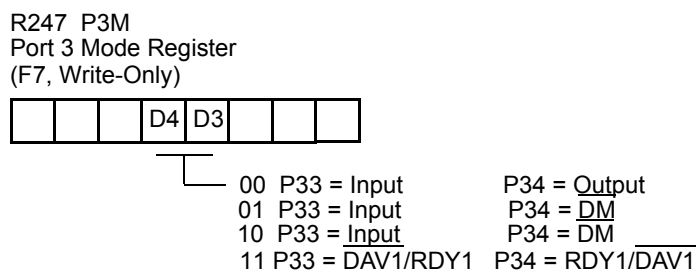
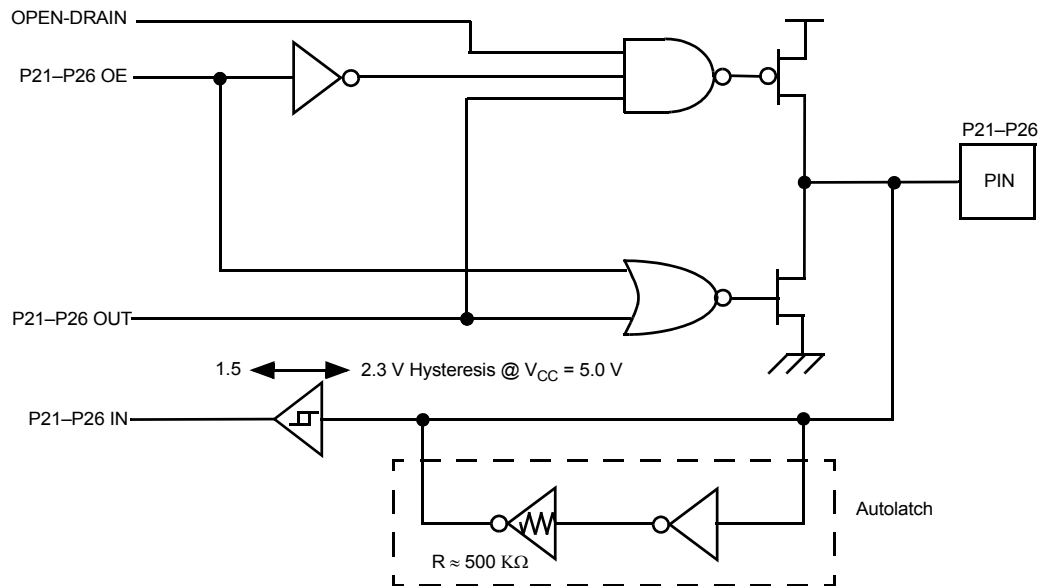

Figure 37. Handshake Operation
Figure 39. Port 2 Configuration with Open-Drain Capability, Autolatch, and Schmitt-Trigger
When used as an I/O port, Port 1 can be placed under handshake control by programming the Port 3 Mode register bits D4 and D3 both to 1. In this configuration, handshake control lines are DAV1 (P33) and RDY1 (P34) when Port 1 is an input port, or RDY1 (P33) and DAV1 (P34) when Port 1 is an output port. See Figure 37 through Figure 39 on page 55.
Port 2 can be an 8-bit, bidirectional, CMOS- or TTL- compatible I/O port. These eight I/O lines can be configured under software control to be an input or output, independently. Input buffers can be Schmitt-triggered, level-shifted, or a single trip point buffer and may contain autolatches. Bits programmed as outputs may be globally programmed as either push-pull or open-drain. Low-EMI output buffers can be globally programmed by the software, an OTP program option, or as a ROM mask option. In addition, when the SPI is featured and enabled, P20 functions as data-in (DI), and P27 functions as data-out (DO). Refer to specific product specifications for exact input/output buffer type features available. See Figure 39 on page 55 through Figure 41 on page 56.